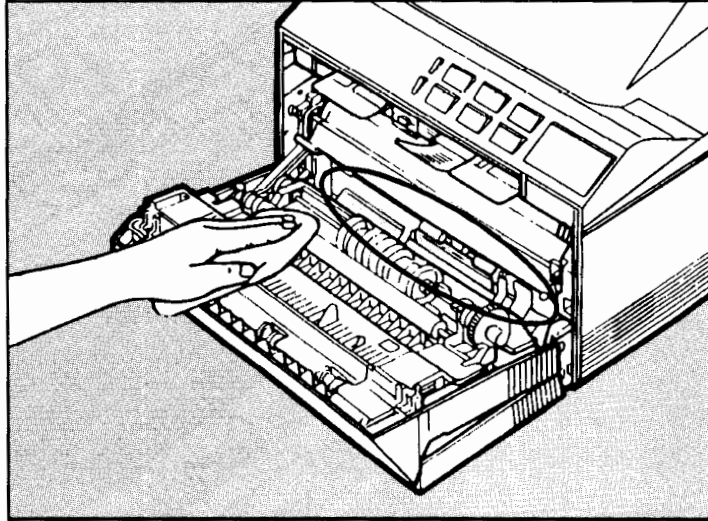

Figure 7-14. Cleaning Inside the Printer
2. Wipe away any visible toner, using a dry lint-free cloth. Do not remove the toner cartridge. Be careful not to bend any of the plastic paper guides circled in figure 7-14.